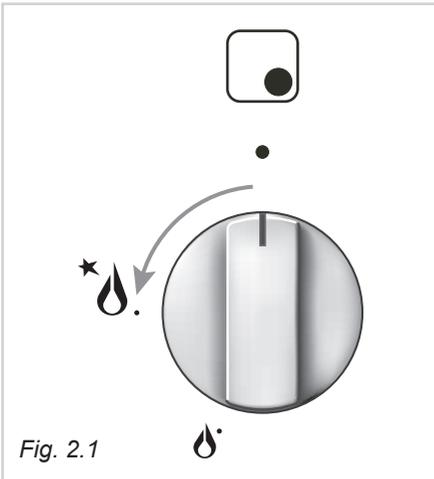

Fig. 2.1
- ✓ The electric ignition is incorporated in the knobs  beside flame  - max. heat/max. gas flow (fig. 2.1).
- 1) Press in the corresponding knob and turn counter-clockwise (Fig. 2.2) to the full flame position marked by the  symbol (Fig. 2.1) and hold the knob in until the flame has been lit. In the case of a mains failure light the burner with a match or lighted taper.